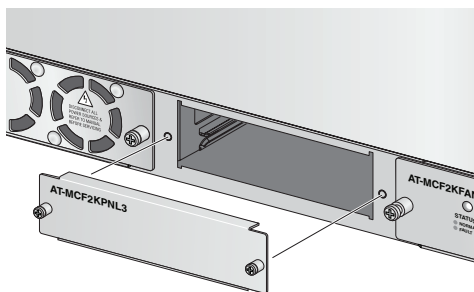

Figure 2. Removing the Blank Panel
2. Remove the blank panel from the management slot on the chassis by loosening the two captive screws on the panel with a cross-head screwdriver. See Figure 2.